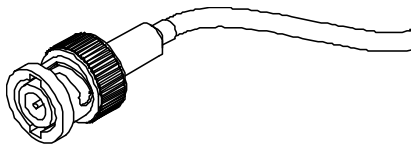

Figure M-5 An eddy current probe BNC connector
- The third type is a BNC connector (see Figure M-5 on page 182), used in certain single-coil eddy current technology probes.